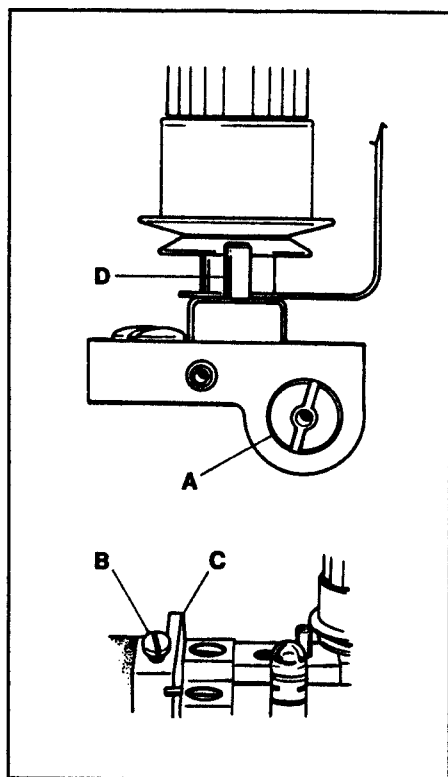

FIG. 36
The tension releaseshould start to function when the presser foot has raised approximately $1/32$ " (0.8mm) above the surface of the throat plate and be entirely released when the presser foot has reached its highest position. Insert a large screwdriver into slot on the right end of shaft (A, Fig. 36), loosen screw (B) in lifter lever (C) and turn the screwdriver to raise or lower pins (D). Tighten screw (B).